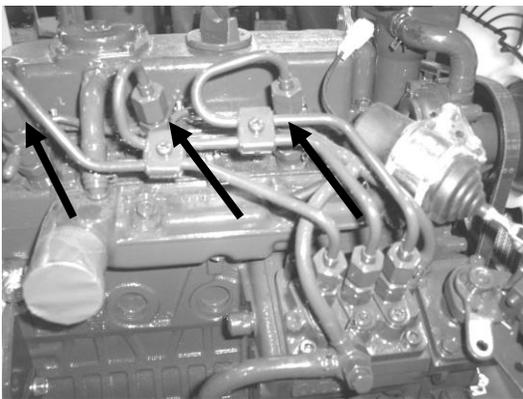

Figure 5—View showing fuel injectors.
8. If necessary, loosen the fitting at each fuel injector (**Figure 5**) slightly. Loosen one injector fitting at a time.